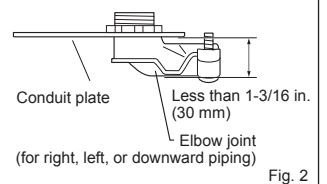

Fig. 2
- 5) Attach conduit pipe (for rear piping) / elbow joint (for right, left, or downward piping) to conduit plate with lock nut. The thread of the installed conduit pipe / elbow joint appearing inside should be less than 3/8 in. (10 mm). (Fig. 1) Elbow joint should appear less than 1-3/16 in. (30 mm) outside. (Fig. 2)
- Pull out the drain hose at the back left of the indoor unit. (Fig. 2)
- If the drain hose provided with the indoor unit is too short, connect it with a field-supplied drain hose (I). (Fig. 2)